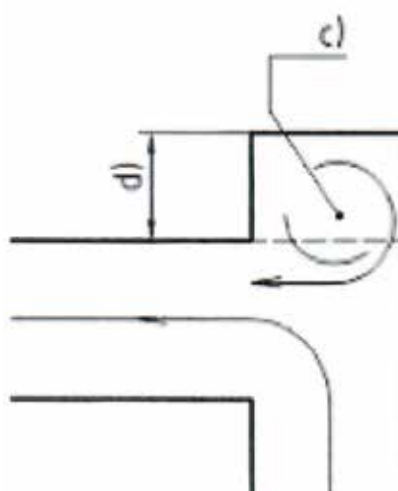

Figure 3. Recirculation in T-piece (correct)
Figure 3, Figure 4 Figure 5 show how a recirculation occurs in a branch of a pipe. This happens whether it is an up-stand as shown in Figure 5 or an upward facing dead leg on a pipe, as shown in Figure 3 Figure 4. If the dead leg is appropriately short, then the recirculation does not reside entirely in the dead leg (see: Figure 3). The mean flow rate in the recirculation is usually significantly reduced compared to the mean flow rate of the main flow, but locally the velocities can be much lower. If the dead leg becomes very deep (it may even be one at a depth of $3D$), then two recirculation may occur, with the mean velocity again dropping dramatically in number two. The phenomenon and typical mean flow rates are shown for an up-stand in Figure 5.
1. A dead leg with the flow direction going towards the dead leg, as shown in Figure 3, has the best conditions for exchanging fluid and there is a reasonably good effect of the flow into the dead leg. Small additions to such solutions can improve the hygienic performance significantly, like e.g. a temperature sensor placed in the dead leg.